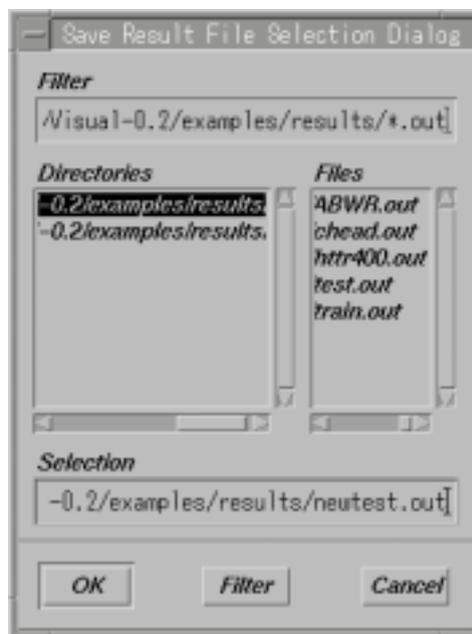

Fig. 7-31. Dialog Window for File Selection
1. Select the **Save** option from the **File** menu of the main window, and the file selection dialog shown in Fig. 7-31 will be displayed.